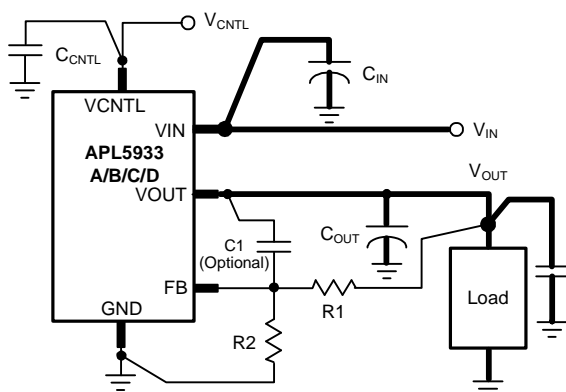

Figure 1.
### Layout Consideration (See Figure 1)
6. Large current paths, shown by bold lines on the figure 1, must have wide tracks.